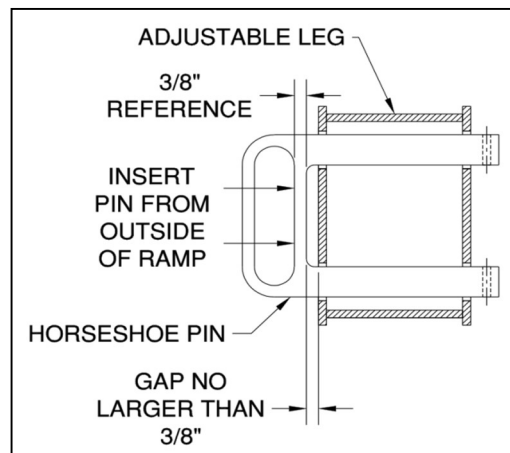

Figure 8. Proper Pin Insertion (Top View)
8. Visually inspect that the pins have been inserted completely (see Figure 8).
4. Visually inspect pins to verify that they are inserted completely (Figure 8).